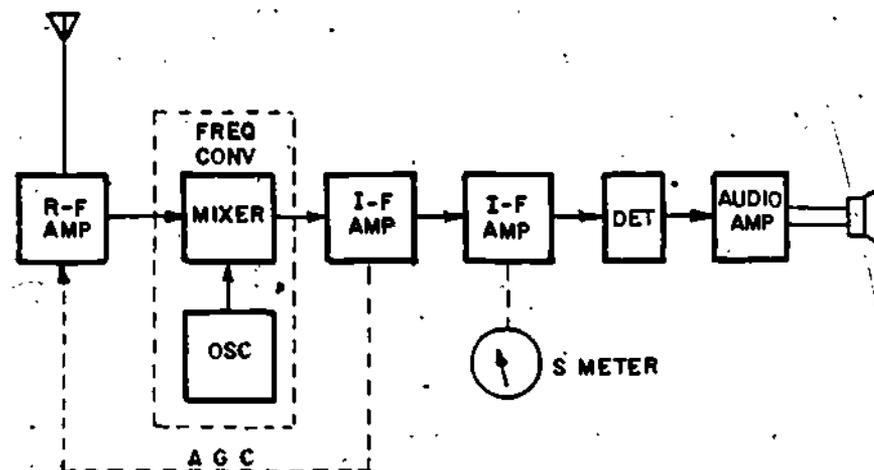

Figure 24
25. You will be working with the NIDA trainer as part of the job program activity for this lesson. You will need to use the built-in meter on the trainer. Figure 24 shows the meter location on the block diagram of the NIDA trainer.
As the IF signal amplitude increases, the pointer on the "S" meter in Figure 24 will show \_\_\_\_\_ movement across the scale.